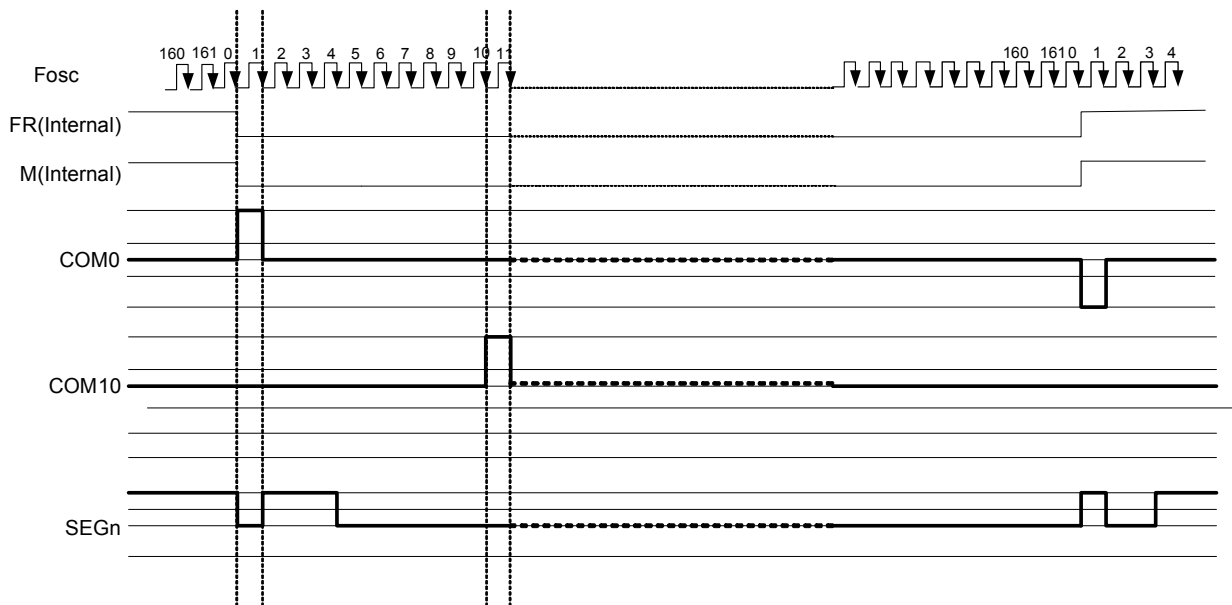

Figure 7.3-3 2 frame AC Driving Waveform (Duty Ratio: 1/162)
This circuit generates some signals to be used for displaying LCD. The display clock, which is generated by oscillation clock, generates the clock for the line counter and the signal for the display data latch. The line address of on-chip RAM is generated in synchronization with the display clock and the display data latch circuit latches the display data in synchronization with the display clock. The display data, which is read to the LCD driver, is completely independent of the access to the display data RAM from the microprocessor. The display clock generates an LCD AC signal (M), which enables the LCD driver to make an AC drive waveform, and also generates an internal common timing signal and start signal to the common driver. The frame signal or the line signal changes the M by setting internal instruction. Driving waveform and internal timing signal are shown in Figure 7.3-3.